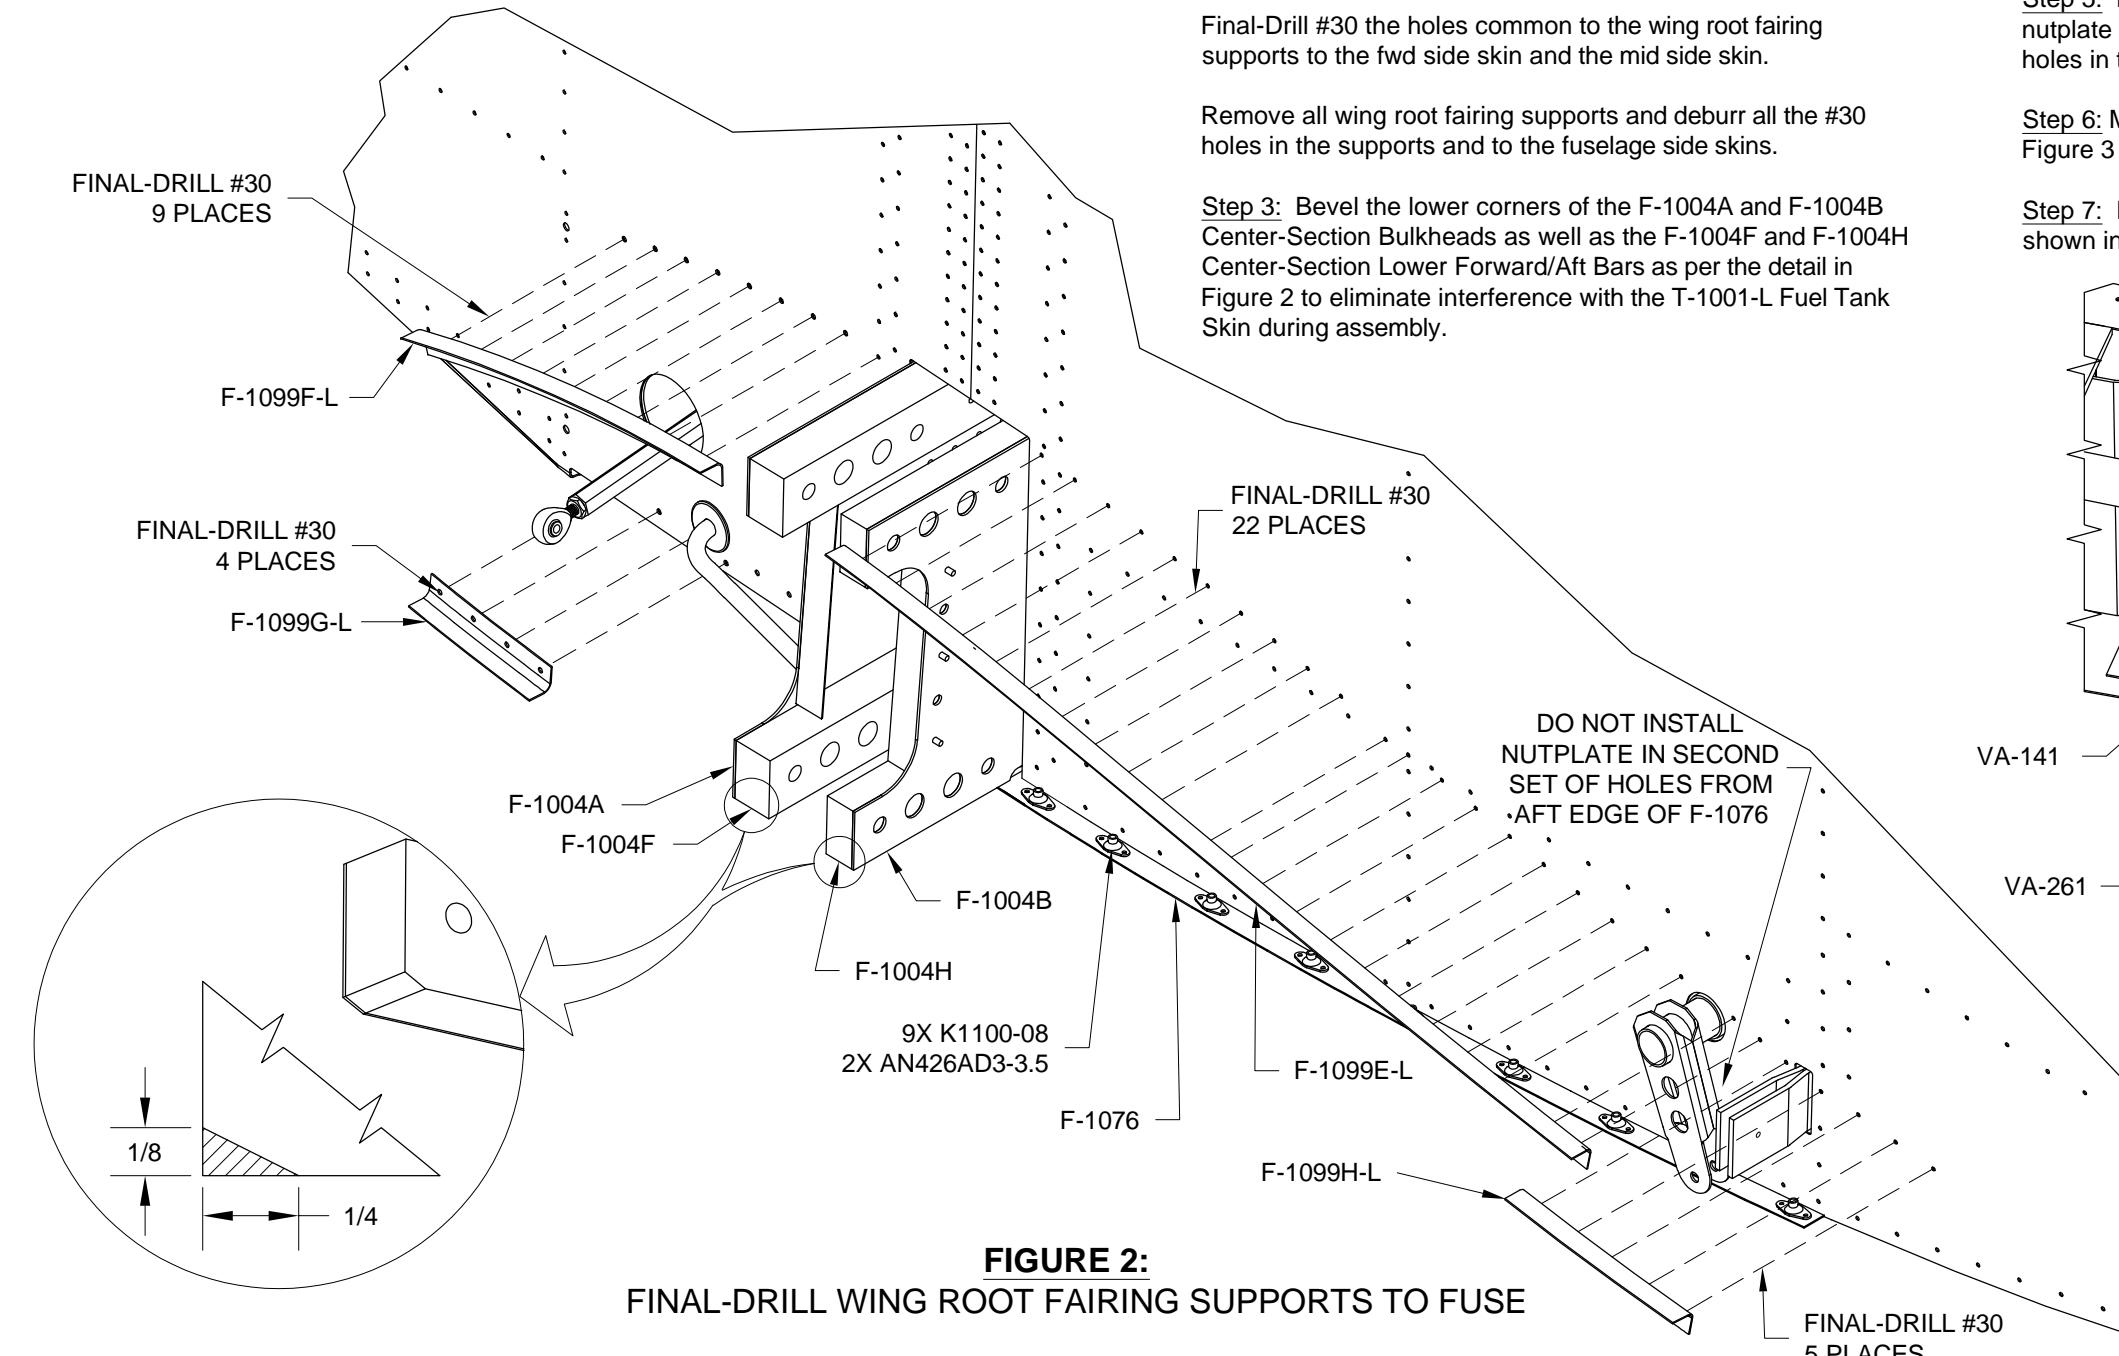

FIGURE 2:
Step 3: Bevel the lower corners of the F-1004A and F-1004B Center-Section Bulkheads as well as the F-1004F and F-1004H Center-Section Lower Forward/Aft Bars as per the detail in Figure 2 to eliminate interference with the T-1001-L Fuel Tank Skin during assembly.
Step 4: Install nine K1100-08 nutplates to the F-1076 Center Bottom Skin as shown in Figure 2. Final-Drill #40, deburr and dimple the nutplate rivet holes and the nutplates. Final-Drill #19, deburr and dimple the 3/32 center screw holes to receive the F-1099B Lower Wing Root Fairing dimpled for an AN509-8R8 screw. Rivet the nutplates to the fuselage bottom skin as per the callouts.